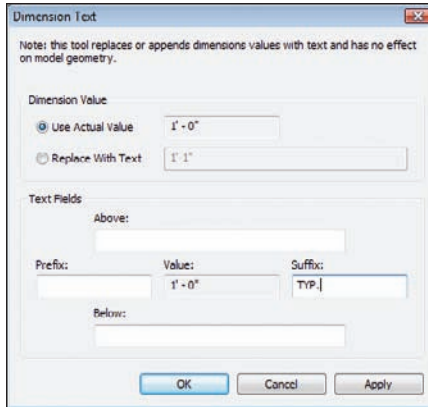

FIGURE 5.43 Under Dimension Value choose Use Actual Value, and type TYP. as the suffix.
6. Click Use Actual Value, as shown in Figure 5.43.
7. Under Suffix, type TYP., as shown in Figure 5.43.